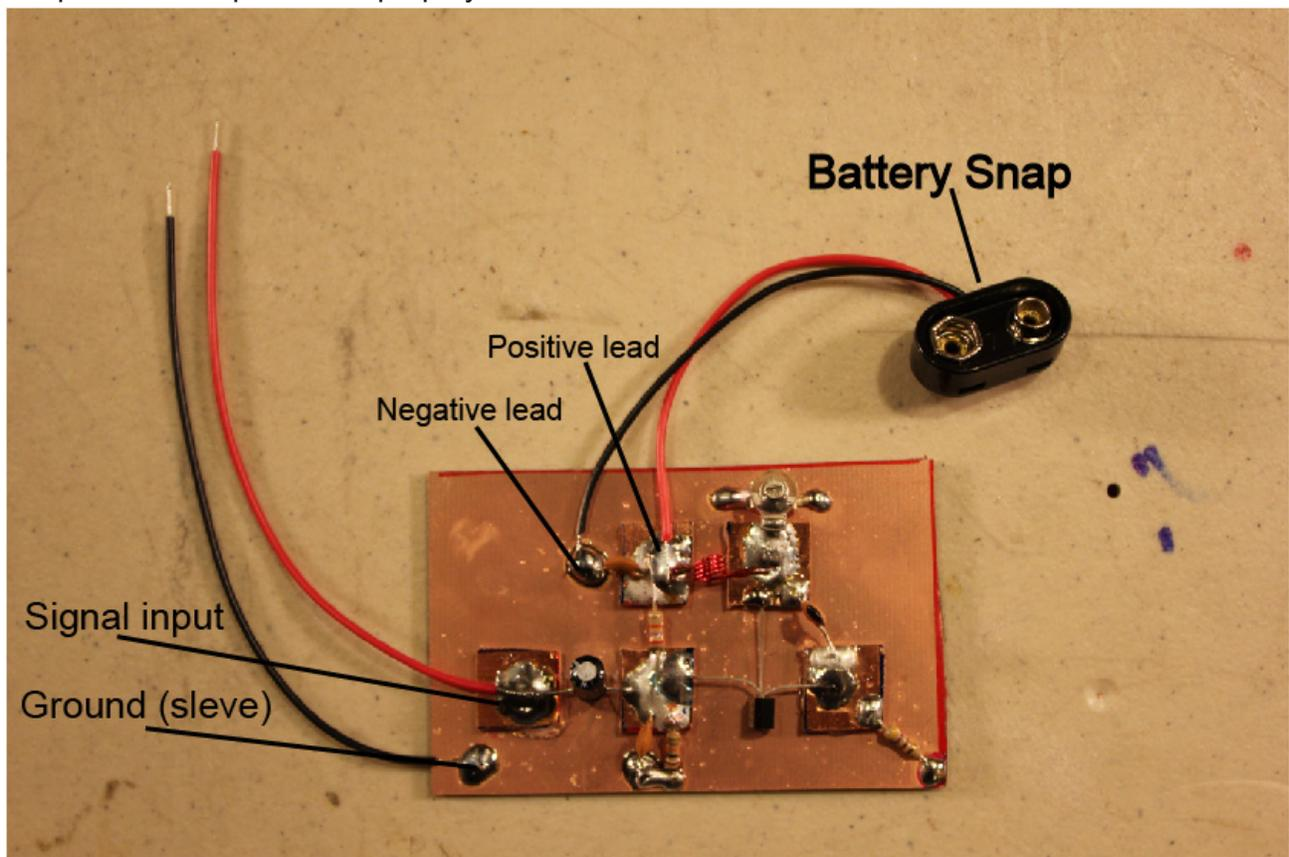

Figure 20
9. Soldering the 9 volt battery snap and input wires (See figure 20)